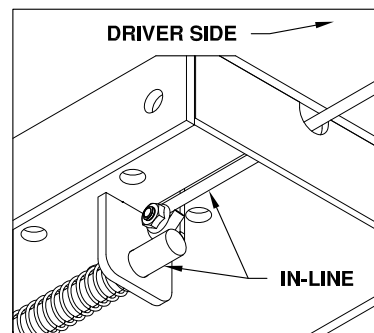

Figure F1: Center Section
- Install the latch pin release handle by inserting it through the slot in the end of the center section on the driver side of the truck. Align the handle eyelet with the square hole in the latch pin so the handle is in line with the latch as shown in Figure F1.